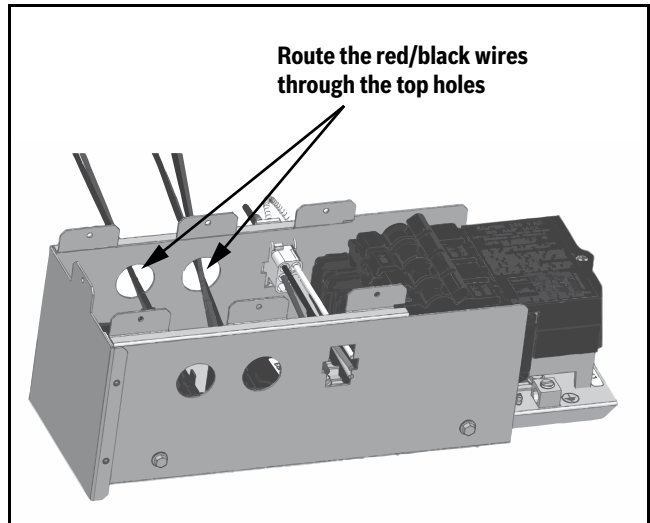
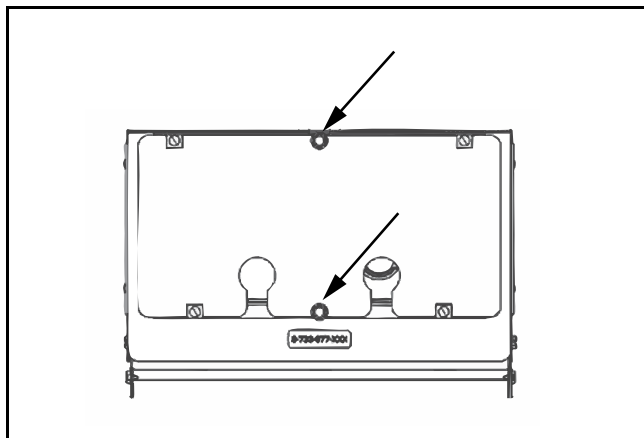

Fig. 22 Route the Red/Black Wire Pairs through the Top Holes
Fig. 27 Location of the Element Cover Screws
3. Locate the red/black (conduit protected) elements wires (labeled HR1, HR2, HR3, and HR4. →Refer to Fig. 27.) and route the wires through the top of the e-heat control box. Be sure to make note of the different wire pairs—each relay has one black and one red wire. (→Refer to Fig. 22.)
9. Secure the element cover with two screws. (→ Refer to Fig. 27.)
9. Secure the element cover with two screws. (→Refer to Fig. 27.)